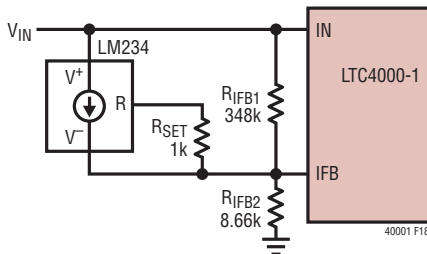

Figure 18. Maximum Power Point Voltage Temperature Compensation Feedback Network
feedback network in Figure 18, a similar set of equations can be used to determine the resistor values:
As the temperature coefficient for V_{MP} is similar to that of V_{OC} , the specified temperature coefficient for V_{OC} (TC) of $-78\text{mV}/^\circ\text{C}$ and the specified peak power voltage ($V_{MP(25^\circ C)}$) of 17.6V can be inserted into the equations to calculate the appropriate resistor values for the temperature compensation network in Figure 18. With R_{SET} equal to $1\text{k}\Omega$, then: